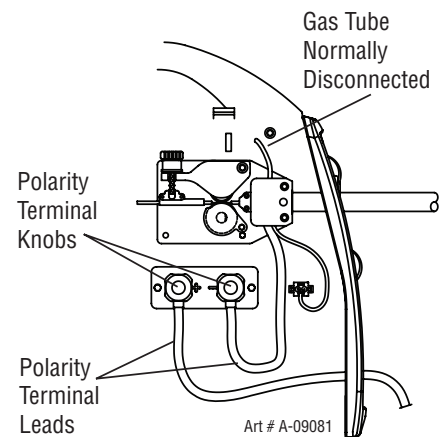

Figure 3-5: Connection for FCAW (straight polarity DCEN)
3. Set up the polarity (as per Table 3-1 above) by removing the leads from the terminals and reversing them if necessary. Refer to Figure 3-5.